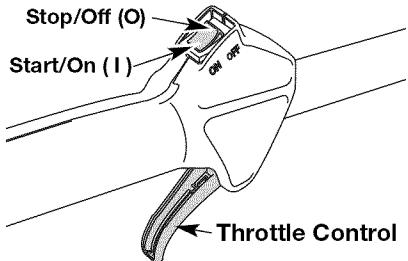

Fig. 2
NOTE: There is no need to turn the unit on. The On/Off Stop Control is in the ON (I) position at all times (Fig. 2).
- Press and hold On/Off Stop Control in the OFF (O) position until engine comes to a complete stop (Fig. 2).